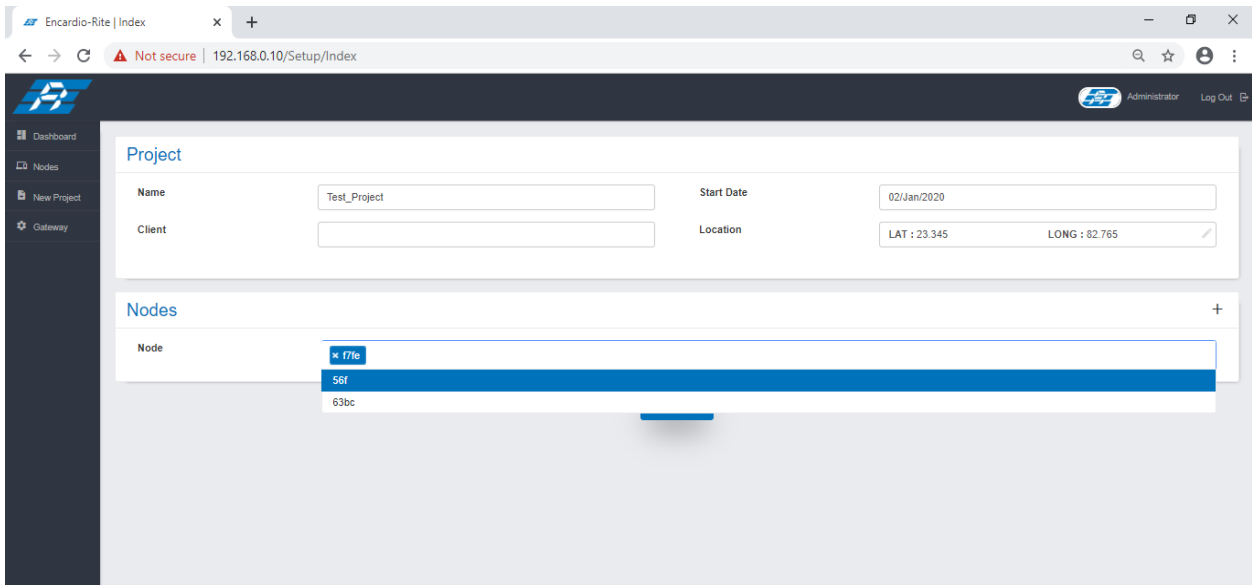

Figure 3-19
5. On Node tab, click with cursor in the text box. IDs of Nodes already added will be seen. Select the nodes. (Multiple nodes can be selected) (refer to figure 3-19)